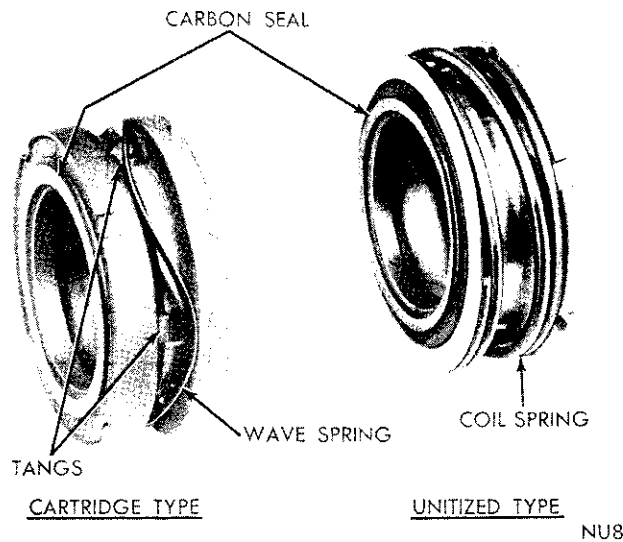

Fig. 13—Gas Seal Identification
The crankshaft gas seal replacement package consists of the crankshaft gas seal assembly and crankshaft bearing housing seal seat plate. Two types of crankshaft seals are supplied for service (Fig. 13). If the replacement package contains the cartridge-type seal, follow the entire installation procedure given below. If the replacement package contains the unitized type seals, follow the appropriate sections only.
(1) Immerse the new seal seat in clean refrigerant oil and install in the bearing housing with the smooth (micro finish) side up. Use a sleeve with the minimum inside diameter of 1-3/8" to avoid damaging the micro finish sealing surface of the face plate. Tap the sleeve lightly until the seal seat is fully seated in the housing.
(2) Before installing the cartridge-type assembly, inspect the assembly to make sure that the tangs of the carbon seal are indexed in the slots of the mating, steel part (Fig. 13).
(3) Immerse the seal assembly in clean refrigerant oil, carbon ring up.
(4) Hold the seal assembly firmly at the outside edge, at the same time preventing the ring from coming out of position. Do not touch the sealing face of the carbon seal.